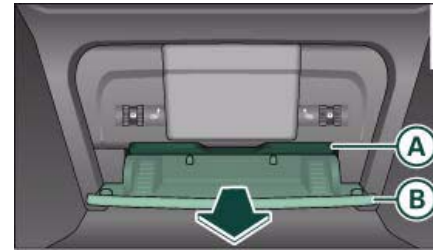

Fig. 96 Rear centre
- Pull the front lip of the ashtray (B) ⇒ fig. 96 in the direction of the arrow.